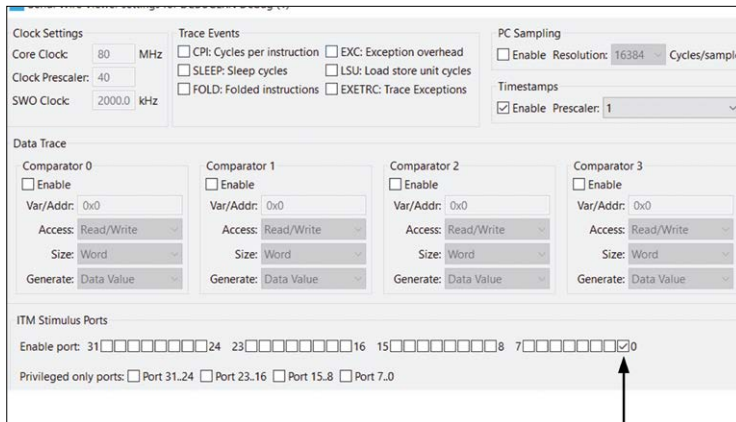

Figure 14.10: Enabling Port 0.
- Click to Enable Port 0 (Figure 14.10), click **OK**.